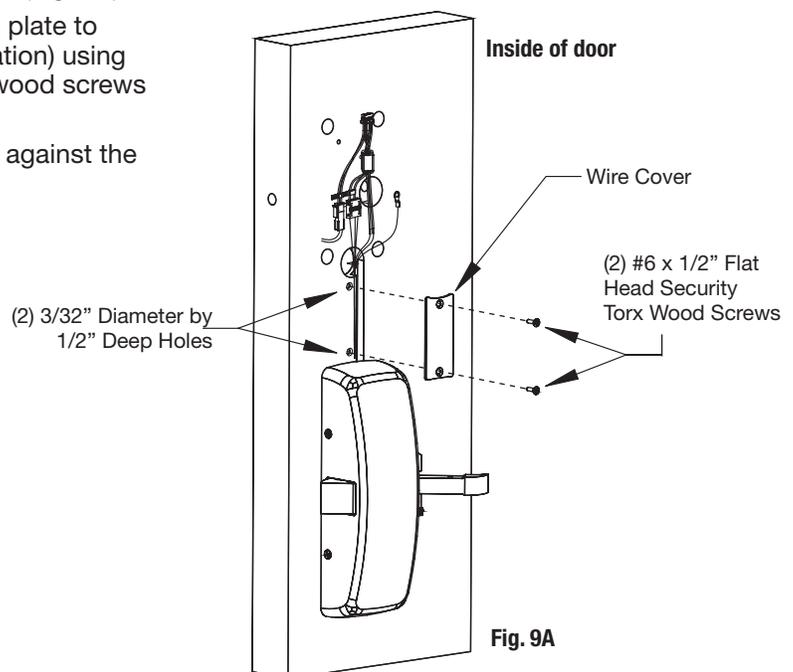

Fig. 9A
2. Drill (2) 3/32" diameter by 1/2" deep holes (Fig. 9A).